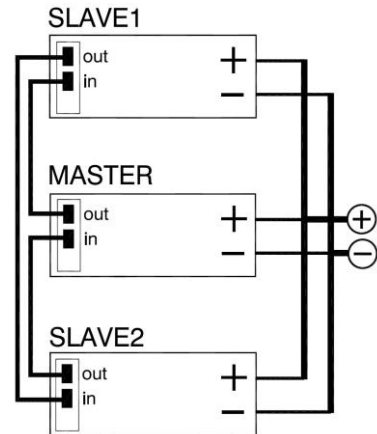

Figure 6.8: Optional Master/slave parallel-connected operation
- It is recommended to use the Master/Slave interface to operate multiple units in parallel. See Figure 6.8 for an overview schematic.